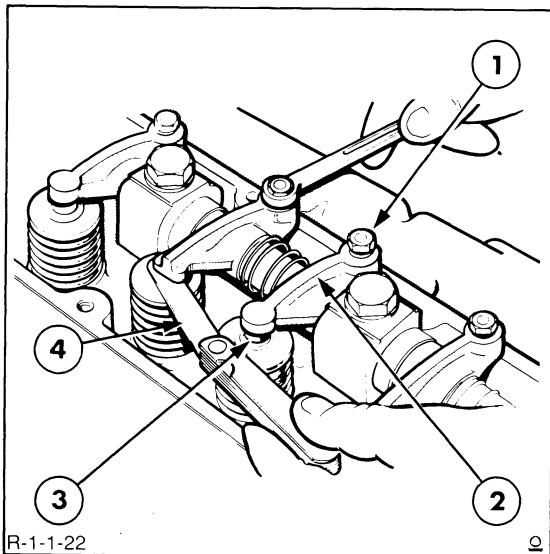

Figure 22
- Rotate the engine and set the valve lash, Figure 22. See "Specifications" – Chapter 3.